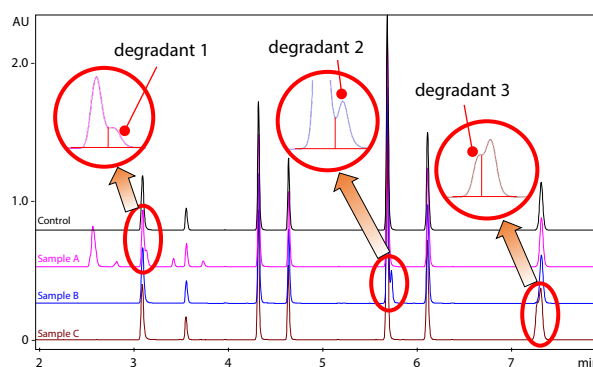
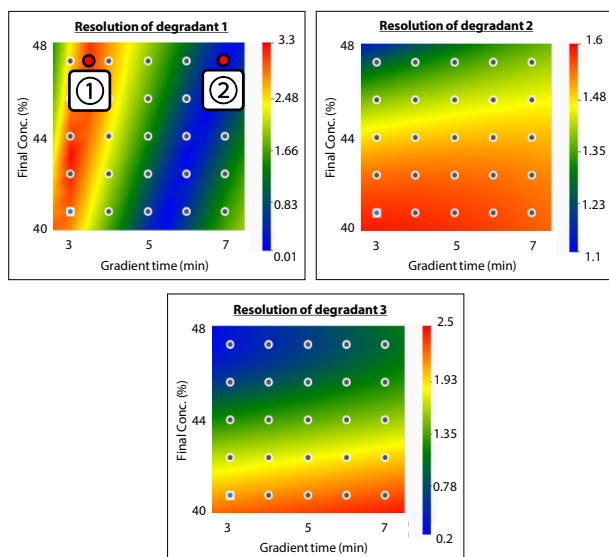
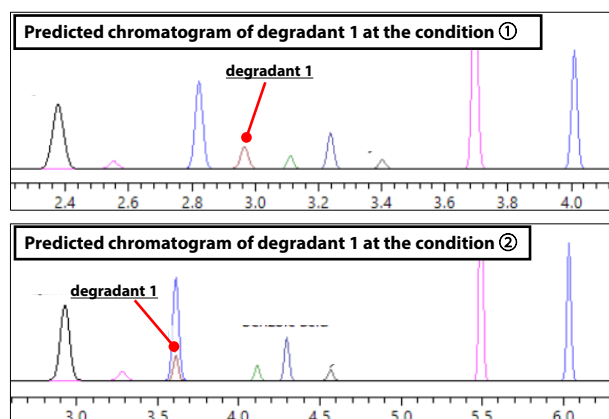

Fig. 1 Chromatograms of Sample A, B, C, and Control
Fig. 2 Design Space for Resolution on Each Degradant
Fig. 3 Predicted Chromatogram of Degradant 1
The analytical conditions and target samples are shown in Table 1. A control sample containing no degradants and three simulated samples with different degradant profiles (mixtures of small molecular drugs as pseudo-degradants, samples A, B, and C) were employed. The degradants in these three samples (degradants 1, 2, and 3 in Fig. 1) were subjected to LabSolutions MD to efficiently explore optimal separation conditions.
Fig. 1 shows the chromatograms of samples A, B, C, and the control, assuming the degradants generated by the stability test (analytical conditions : Table 1). Degradant 1 was identified as a degradant in sample A, degradant 2 in sample B, and degradant 3 in sample C. Since these degradants were co-eluted with other compounds (indicated by red circles in Fig. 1), separation from the other compounds is necessary for the evaluation of the generated degradants. By using LabSolutions MD to combine the chromatograms of samples A, B, and C, the investigation of conditions that enable the separation of all components, including degradants, was conducted efficiently.
Optimal separation conditions were explored using LabSolutions MD by varying the final gradient concentrations to 40, 42, 44, 46, and 48% (five levels), the gradient times to 3, 4, 5, 6, and 7 minutes (five levels), and the column oven temperatures to 25, 30, and 35 °C (three levels) for the chromatograms shown in Fig. 1. The results of visualizing the resolution of degradants 1, 2, and 3, using design space are shown in Fig. 2. The vertical axis represents the final gradient concentration, while the horizontal axis represents the gradient time. The red areas in the figures indicate higher resolution, and the blue areas indicate lower resolution. From the design space visualization, it was found that for degradant 1, shorter gradient times provide better separation, and for degradants 2 and 3, lower final gradient concentrations lead to better separation. Additionally, LabSolutions MD can generate predicted chromatograms at any condition within the design space, allowing the separation behavior to be confirmed without actual analysis. For example, the predicted chromatograms for degradant 1 under conditions ① (final gradient concentration : 48%, gradient time : 3.5 min) and ② (final gradient concentration : 48%, gradient time : 7 min) in the design space are shown in Fig. 3.
When the gradient time is changed, degradant 1 shows specific retention behavior compared to the other compounds. In the predicted chromatogram for condition ① (Fig. 3 upper), degradant 1 is separated from the other compounds, whereas in the predicted chromatogram for condition ② (Fig. 3 lower), it is co-eluted. This indicates that condition ①, located in the red area of the design space, provides better separation compared to condition ②, located in the blue area.